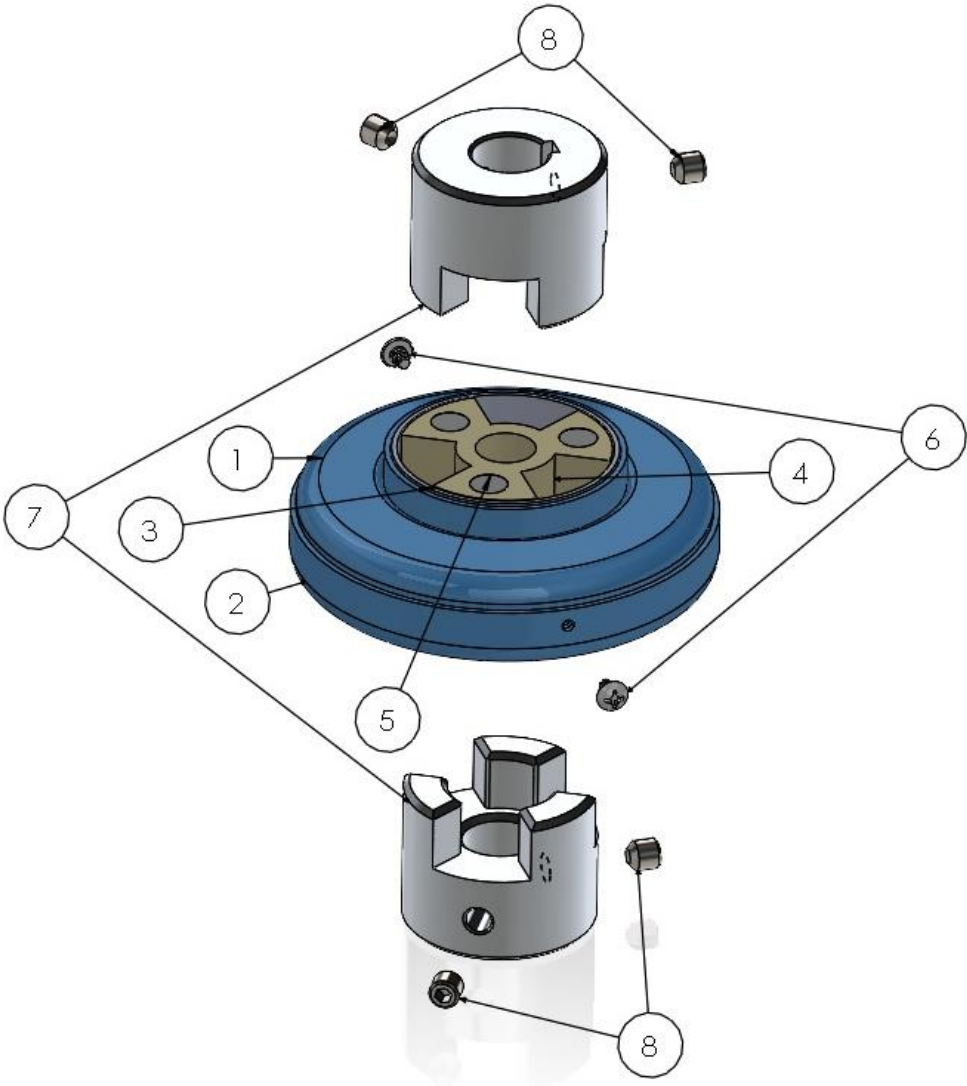

Figure 1
Refer to Figure 1 and the accompanying bill of materials for information on the individual parts of the torque limiting direct coupling.
- Replacement clutches are available from the Hersey Clutch Company. Refer to exploded view in Figure 1 for items.